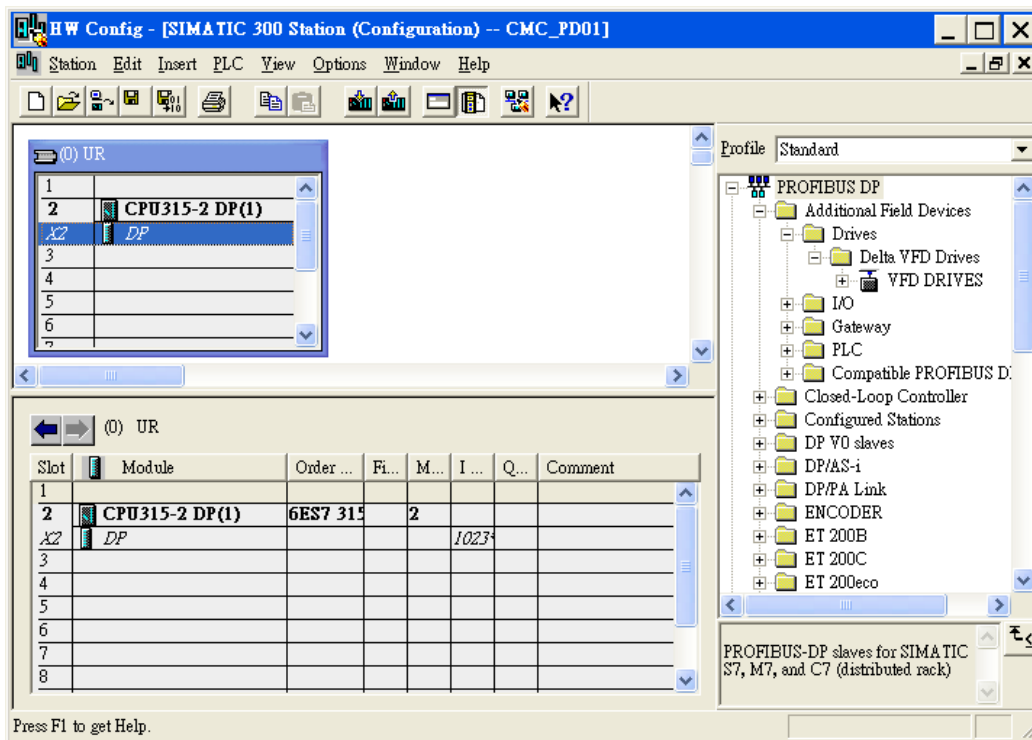

Figure 7-10
2. In the “HW Config” window, double click “DP” in the left-hand side column, and a dialog box will appear. See Figure 7-10.